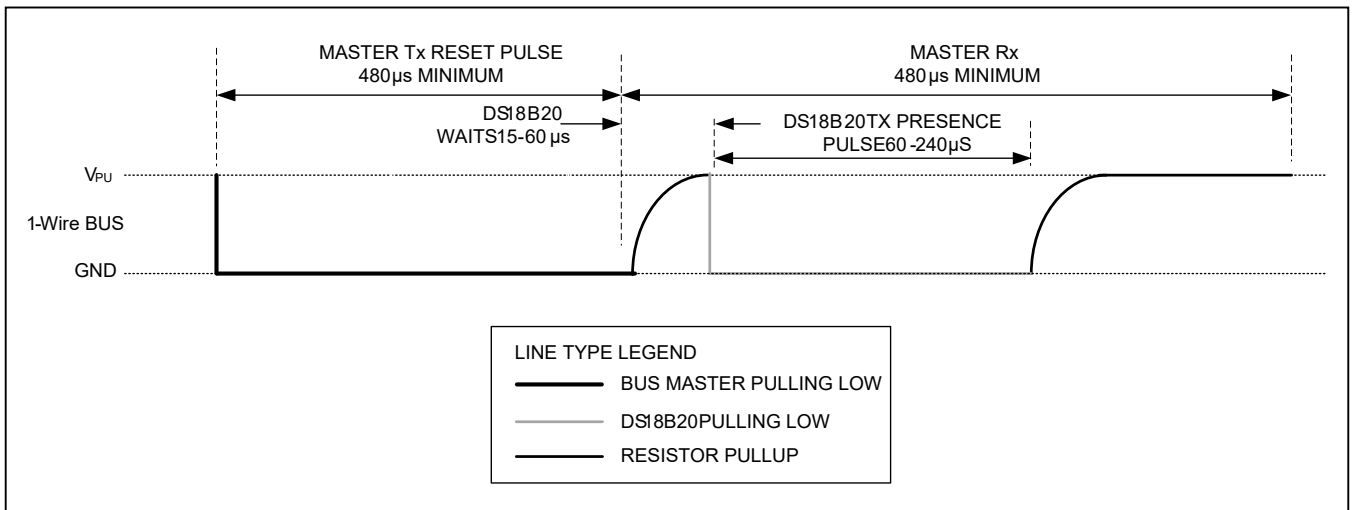

Figure 15. Initialization Timing
All communication with the DS18B20 begins with an initialization sequence that consists of a reset pulse from the master followed by a presence pulse from the DS18B20. This is illustrated in Figure 15. When the DS18B20 sends the presence pulse in response to the reset, it is indicating to the master that it is on the bus and ready to operate. During the initialization sequence the bus master transmits (TX) the reset pulse by pulling the 1-Wire bus low for a minimum of 480 $\mu$ s. The bus master then releases the bus and goes into receive mode (RX). When the bus is released, the 5k $\Omega$  pullup resistor pulls the 1-Wire bus high. When the DS18B20 detects this rising edge, it waits 15 $\mu$ s to 60 $\mu$ s and then transmits a presence pulse by pulling the 1-Wire bus low for 60 $\mu$ s to 240 $\mu$ s.